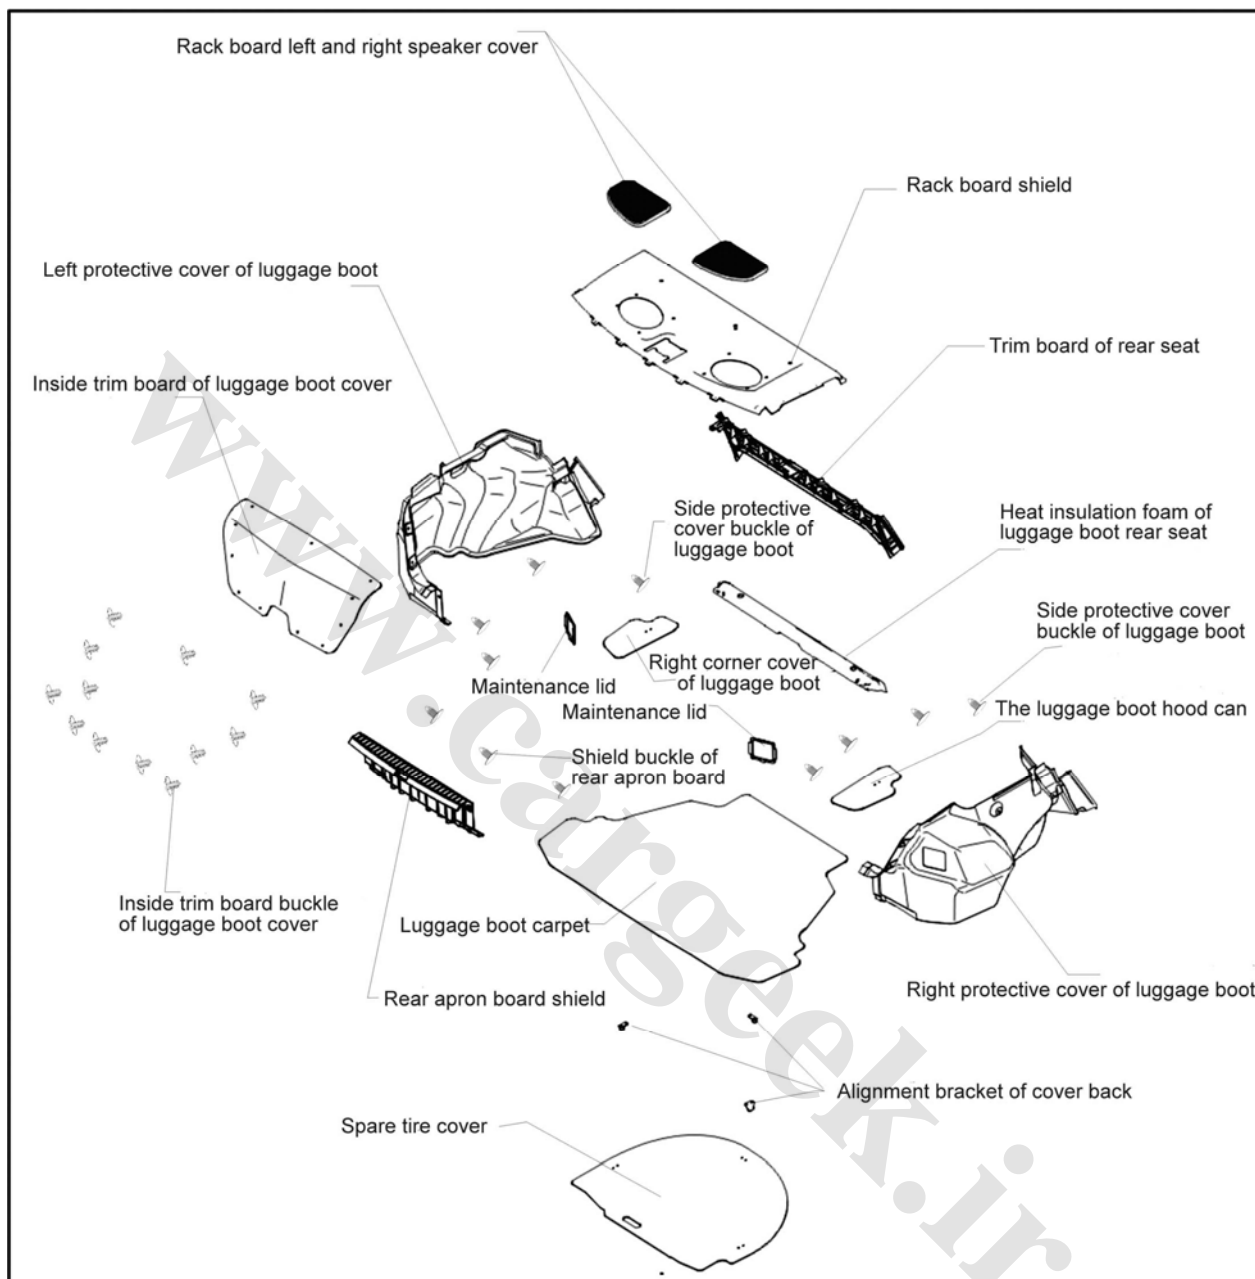

Fig. 7-25
1. Removal of rear wall, as shown in Fig. 7-25: